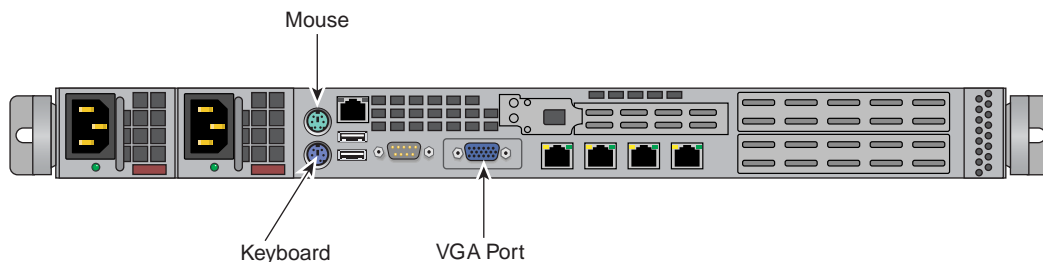

Figure 1-5 System Management Node Rear Video Connections
- An in-rack system console can be directly connected to the system management node via VGA and PS2, see Figure 1-5 on page 8. You can then log into the SMN and perform system administration either through CLI commands or via the SGI Management Center interface.
- A LAN connection to the system management node (running the SGI Management Center software application). This can also be done using an optional VGA-connected console, see Figure 1-5.